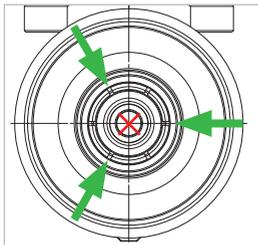

Figure 7
Note: Make sure that no cleaning agent gets into the gas channel (*Figure 7*).
- ▶ Spray once briefly using the small dispensing tube between every second clamping jaw (*Figure 7*).
Attention: The lubricant must not be allowed to enter the gas channel (*Figure 7*).